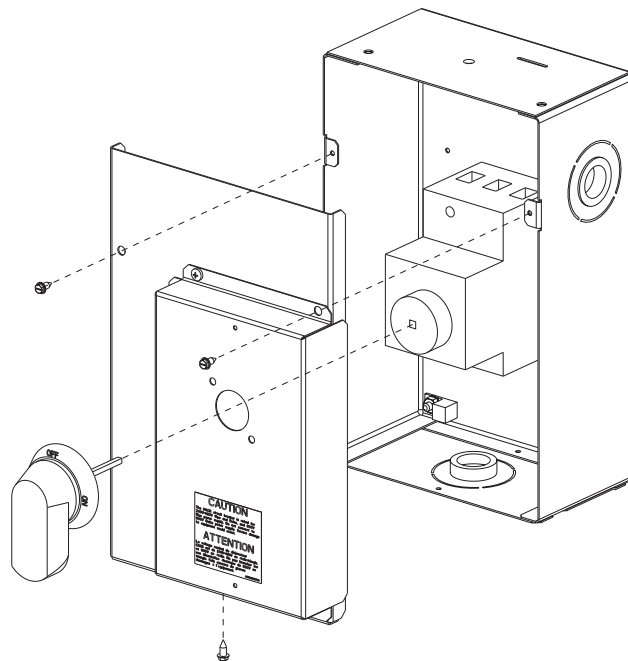

Fig. 27 — Handle and Shaft Assembly for HACR Circuit Breaker
2. Remove (3) hex screws on the HACR circuit breaker enclosure - (2) on the face of the cover and (1) on bottom (see Fig. 27).
9. Secure the handle to the painted cover with (2) screws and lock washers supplied.
10. Engaging the shaft into the handle socket, re-install (3) hex screws on the HACR circuit breaker enclosure.